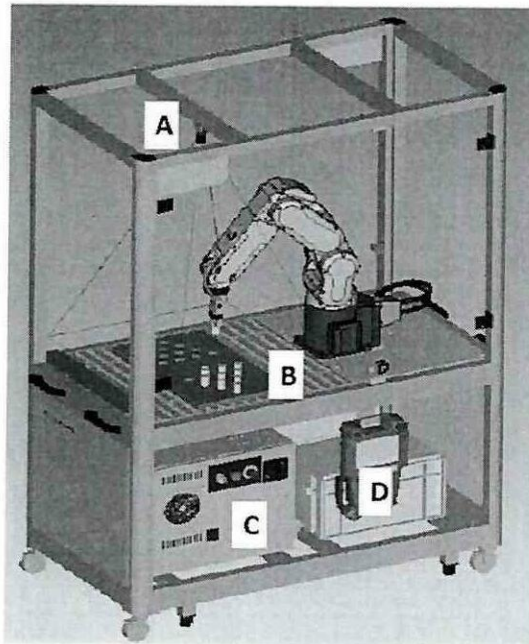
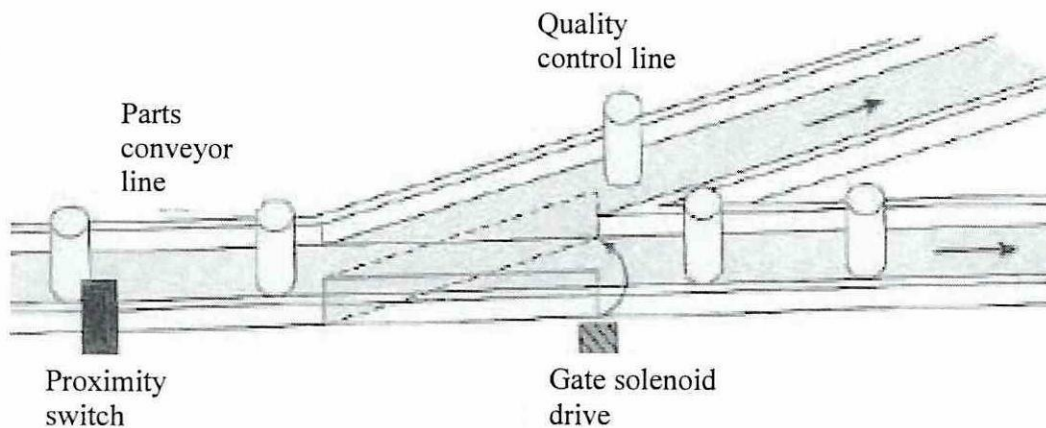

Figure Q1.1
Figure Q2.1
- Q1** (a) State **TWO (2)** reasons how do industrial robots improve efficiency in the manufacturing industry (3 marks)
- (b) **Figure Q1.1** shows an industrial robot with **THREE (3)** joints end effector attached to it
- (iii) Analyze component A – D in the **Figure Q1.1**, name it and state their functions. (8 marks)
- Q2** (a) Industrial production involves numerous cycles of repetitive and sequential operations. From time to time, the automation sequences could be modified or altered to meet the production need in short notice. Identify **TWO (2)** benefits and **TWO (2)** limitations of using a programmable logic controller (PLC) in industrial automation for production. (4 marks)
- (b) **Figure Q2.1** shows a separate conveyor to divert one (1) part out of every twenty (45) parts to the quality control line automatically for inspection purposes.